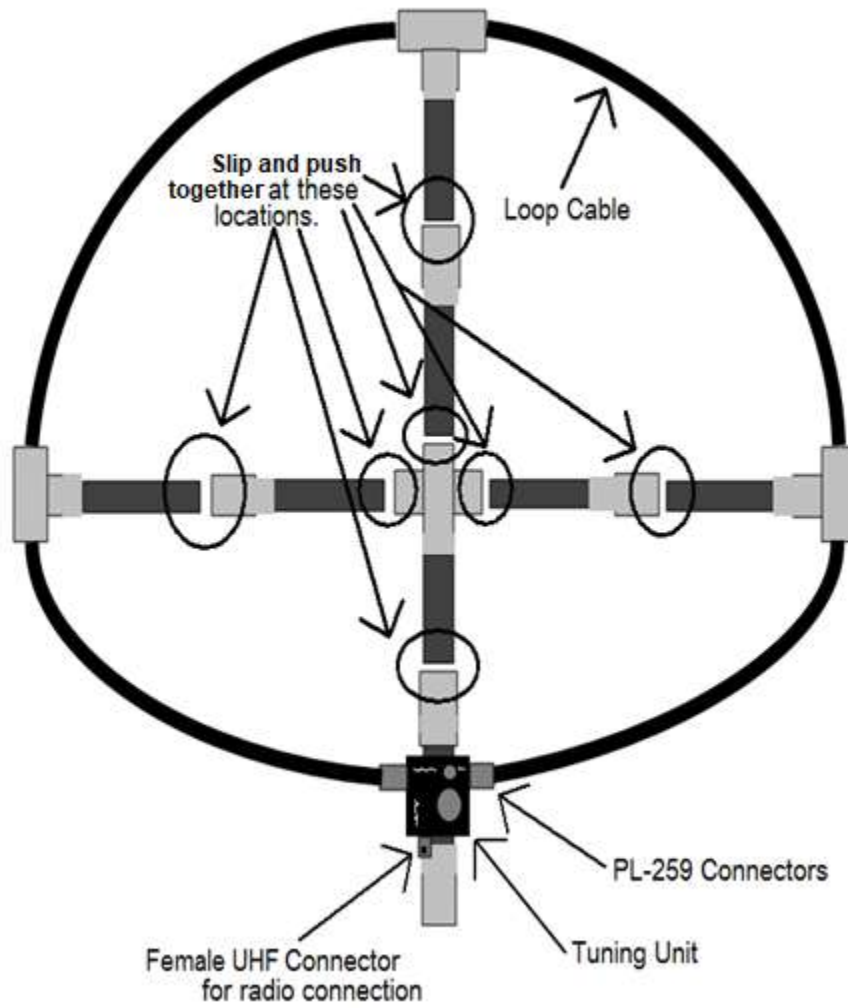

Fig. 1
(Refer to figs. 1 & 2 on the following pages for illustration of assembly)
- 1) Assemble the antenna support if you are going to use it. (refer to fig. 1 on page 6).